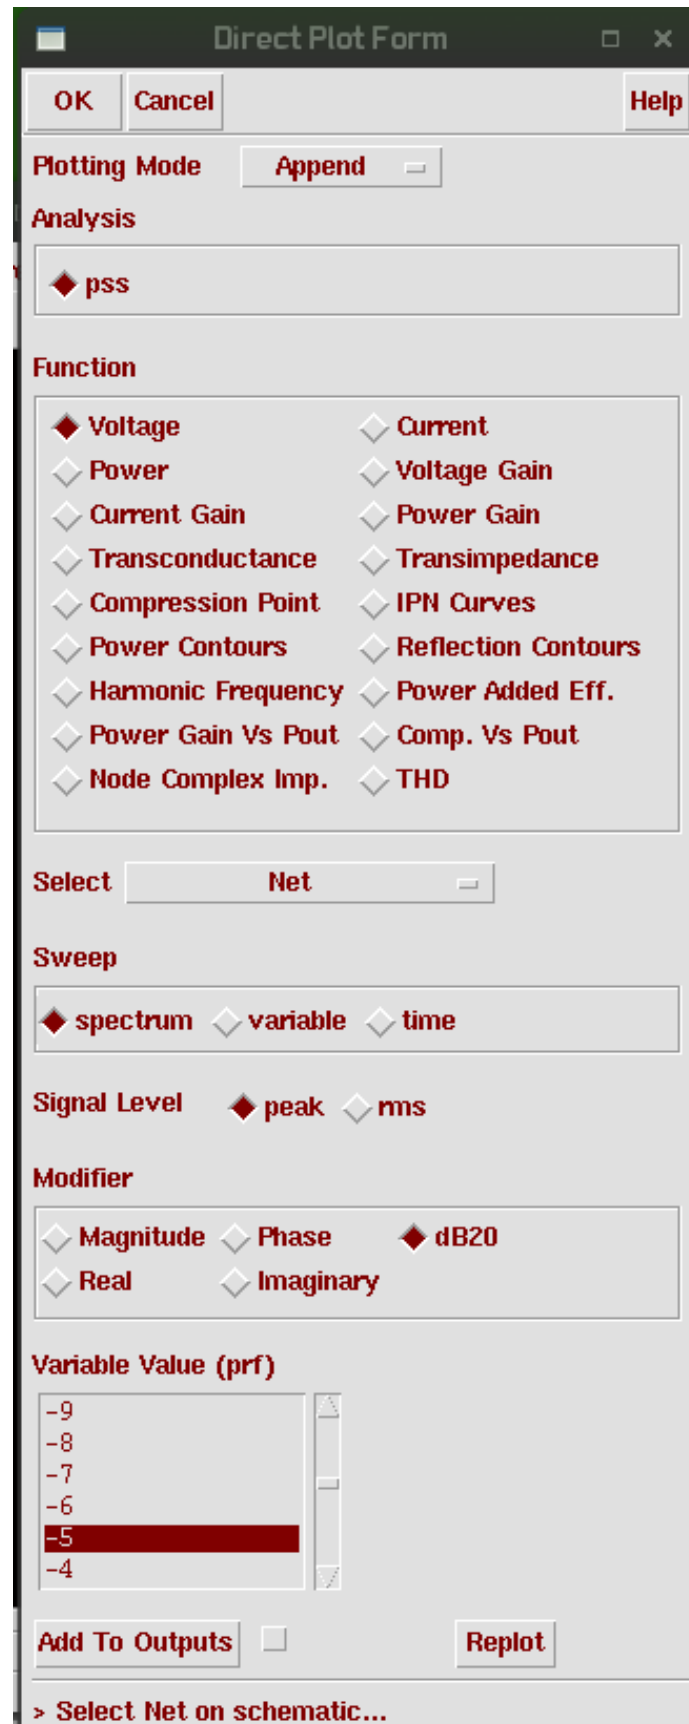

Figure 4.4: Harmonic Distortion plotting window
3. Results > Direct Plot > Main Form. (Refer Fig. 4.4)